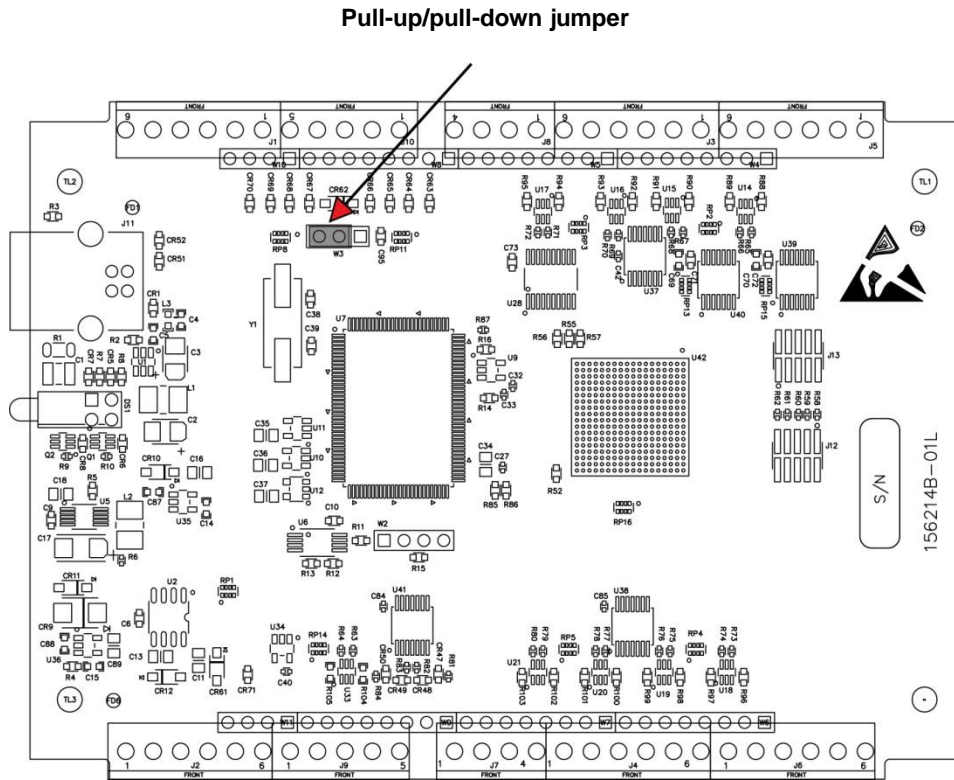
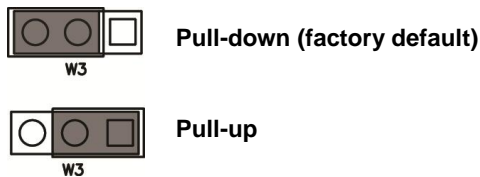

Figure 12. Pull-up/down jumper location
Figure 13. Pull-up/down jumper configurations
The digital port has 47 k Ω resistors that you can configure as pull-up or pull-down with internal jumper (see Figure 12 on page 16 for the location of this jumper).
5. Configure the jumper for either pull-up or pull-down. The jumper is configured by default for pull-down (see Figure 12 and Figure 13).
Figure 12 shows the location of the pull-up/down jumper on the USB-CTR08 with the enclosure removed.
The pull-up/down jumper is configured by default for pull-down (see Figure 13).